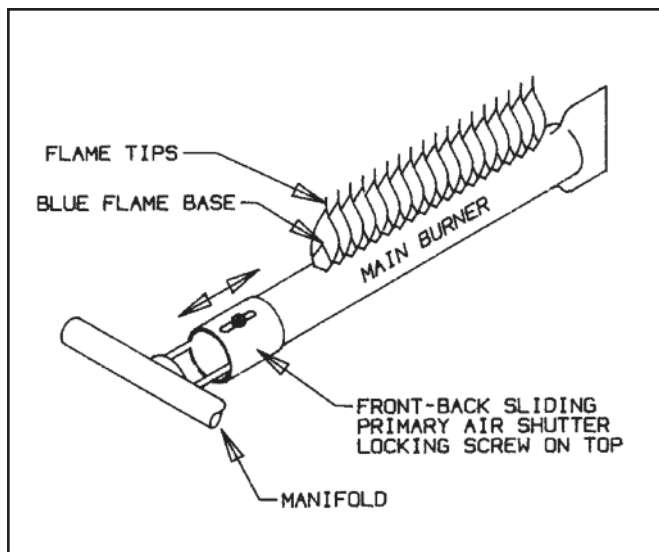

Figure 22.
3. For one burner, close the air shutter until some of its flame jet tips turn yellow-white, indicating insufficient primary air. Then open shutter until whitish tips disappear completely. Set all burner shutters to the same opening. Observe to make sure that no yellow-white tips appear over any portion of the flame. Small yellow tips at the pilot are permitted (see Figure 22).